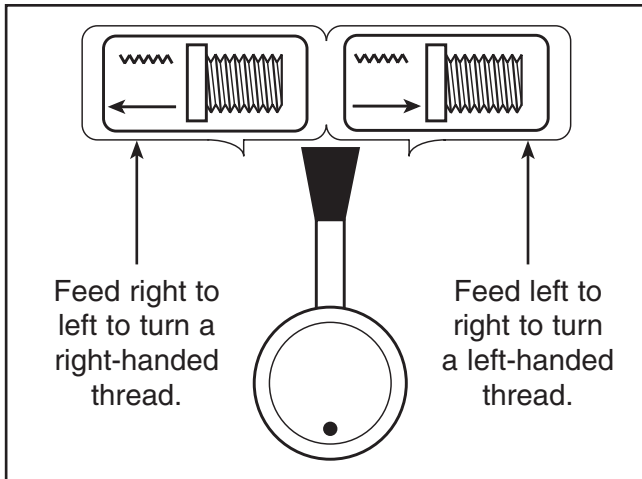

Figure 52. Left/right hand threads.
2. Move the Feed Rod/Lead Screw selector to the lead screw position and move the feed direction selector to the desired thread direction (see **Figure 52**).